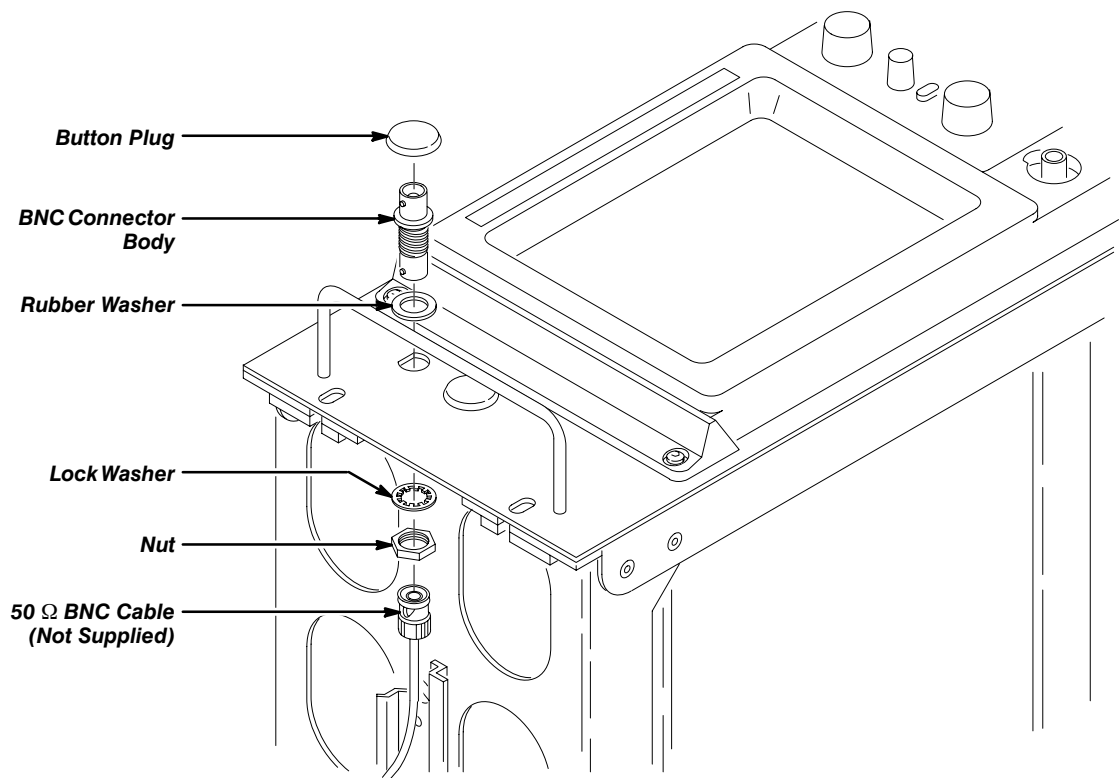

Figure 14: Installing BNC Connectors
1. Install a BNC connector into the button hole. Refer to Figure 14.
1. Install a BNC connector into the button hole. See Figure 14 on page 18.